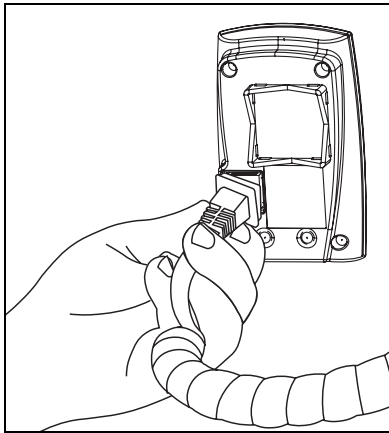

Figure 2: Back of receiver showing rubber boot being properly installed
3. Connect the power cable into the RJ45 connector on the back of the receiver. Push the rubber boot firmly into the recess around the connector to ensure a tight seal. See Figure 2.